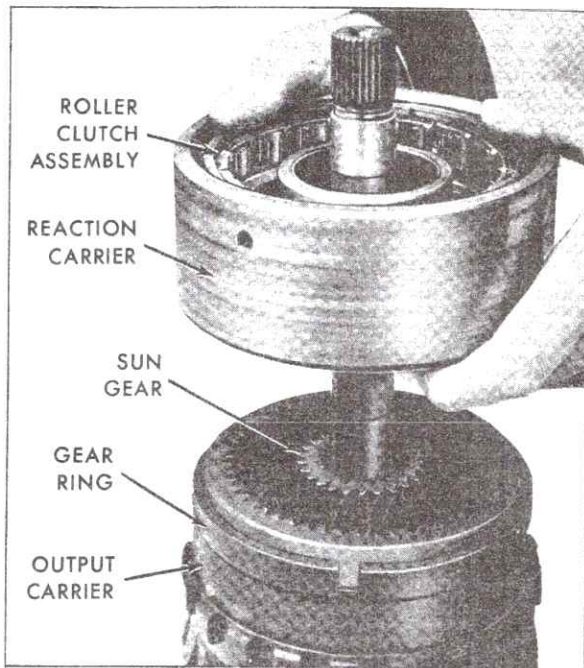

Fig. 7-162 Removing Reaction Carrier and Roller Clutch Assembly
- b. Remove reaction carrier and roller clutch assembly from output carrier, Fig. 7-162, and remove roller clutch assembly from reaction carrier.